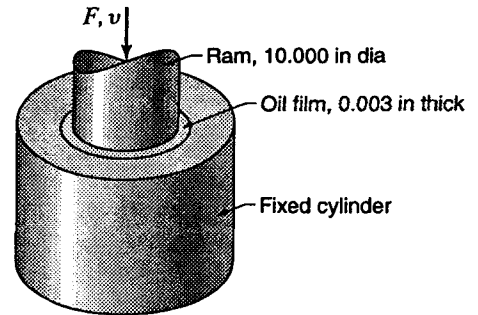

Figure P2.21
- 2.22 *A hydraulic lift of the type commonly used for greasing automobiles consists of a 280.00-mm-diameter ram which slides in a 280.18-mm-diameter cylinder (similar to Fig. P2.21), the annular space being filled with oil having a kinematic viscosity of 0.00042 m²/s and specific gravity of 0.86. If the rate of travel of the ram is 0.22 m/s, find the frictional resistance when 2 m of the ram is engaged in the cylinder.*